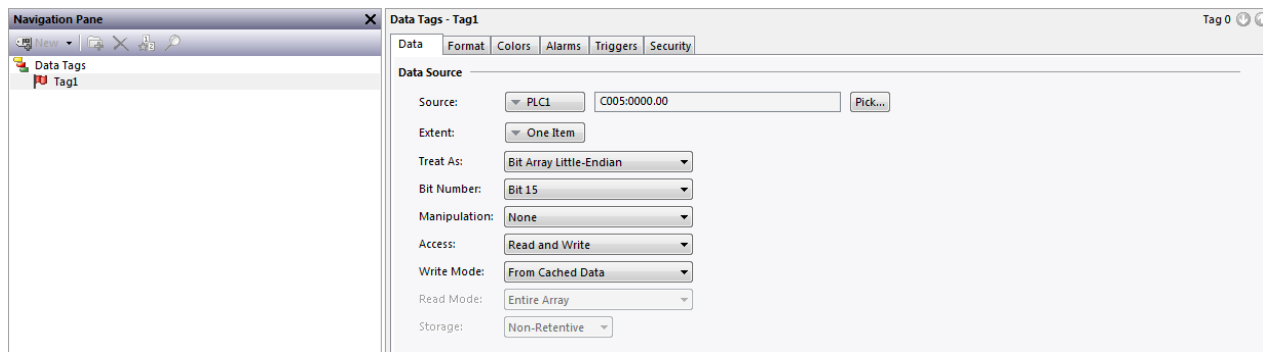

Figure 2.
- To map a tag to the count up enable bit above (C5:0/CU in RSLogix 500) in Crimson, you would map a Flag tag to C005:0000 0 - STAT. Set the Treat As: parameter to *Bit Array Little-Endian* and choose *Bit 15* for the Bit Number parameter, as shown in Figure 2.